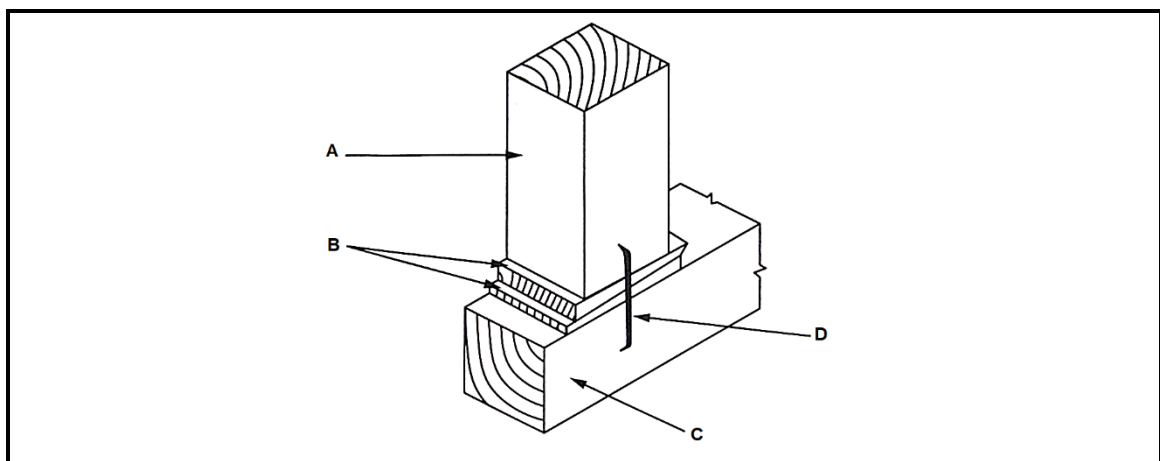

FIGURE 6.2
6.2 FIGURE 6.2 below shows the base of a dead shore. Study the picture and answer the questions that follow.